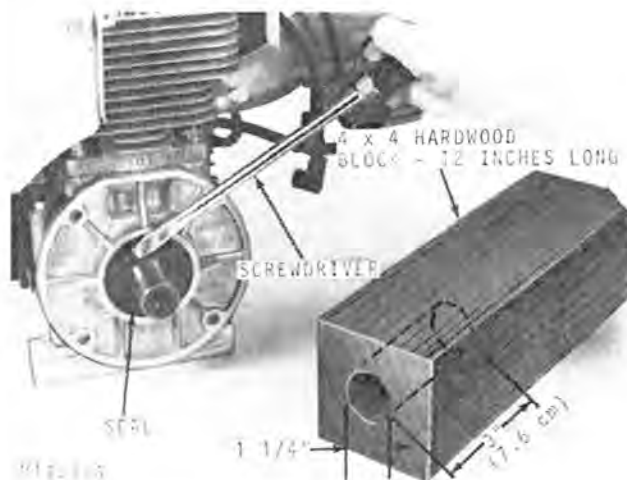

Fig. 24-Replacing PTO End Bearing Seal
2. Use a cold chisel to make a slot in old seal. Pry old seal out with a long screwdriver blade, Fig. 24.